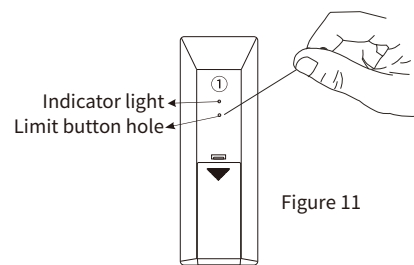
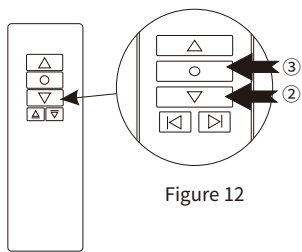

Figure 11
Figure 12
b. Use a small paper clip or small round needle to insert the electronic positioning setting key hole of the elevator on the back of the remote control (as shown in figure 11), press the electronic positioning setting key of the elevator, the red and blue LEDs will light up, and then press the elevator Rack down button, at this time, after the lifting frame is lowered to a suitable position, press the stop button of the remote control as shown in figure 12), and then press the electronic positioning setting button of the lifting button, the red and blue light-emitting diodes are off, and the lifting frame moves up and down. The electronic lower limit setting of the lifting frame is completed.